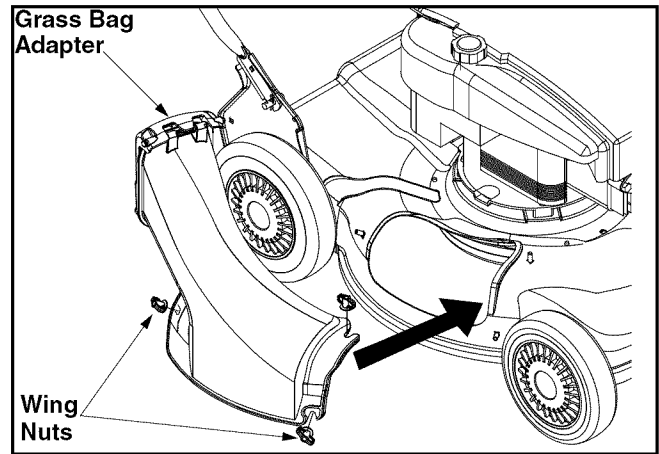

Figure 6
- Replace with grass bag adapter, while making sure the front lip of adapter goes under the edge of the deck. Secure with wing nuts previously removed. See Figure 6.